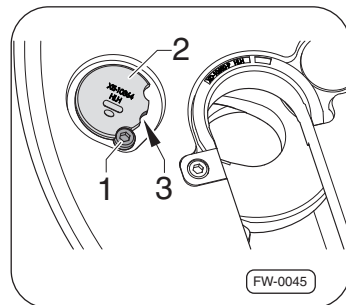

Fig. 24 · Adjusting the lock
1. To adjust the lock, loosen the hexagon socket screw ⇒Fig. 24,–item 1– until the head releases the bolt –item 2–. Turn the bolt –item 2– clockwise until the next notch –item 3– is flush with the hexagon socket screw–item 1–.